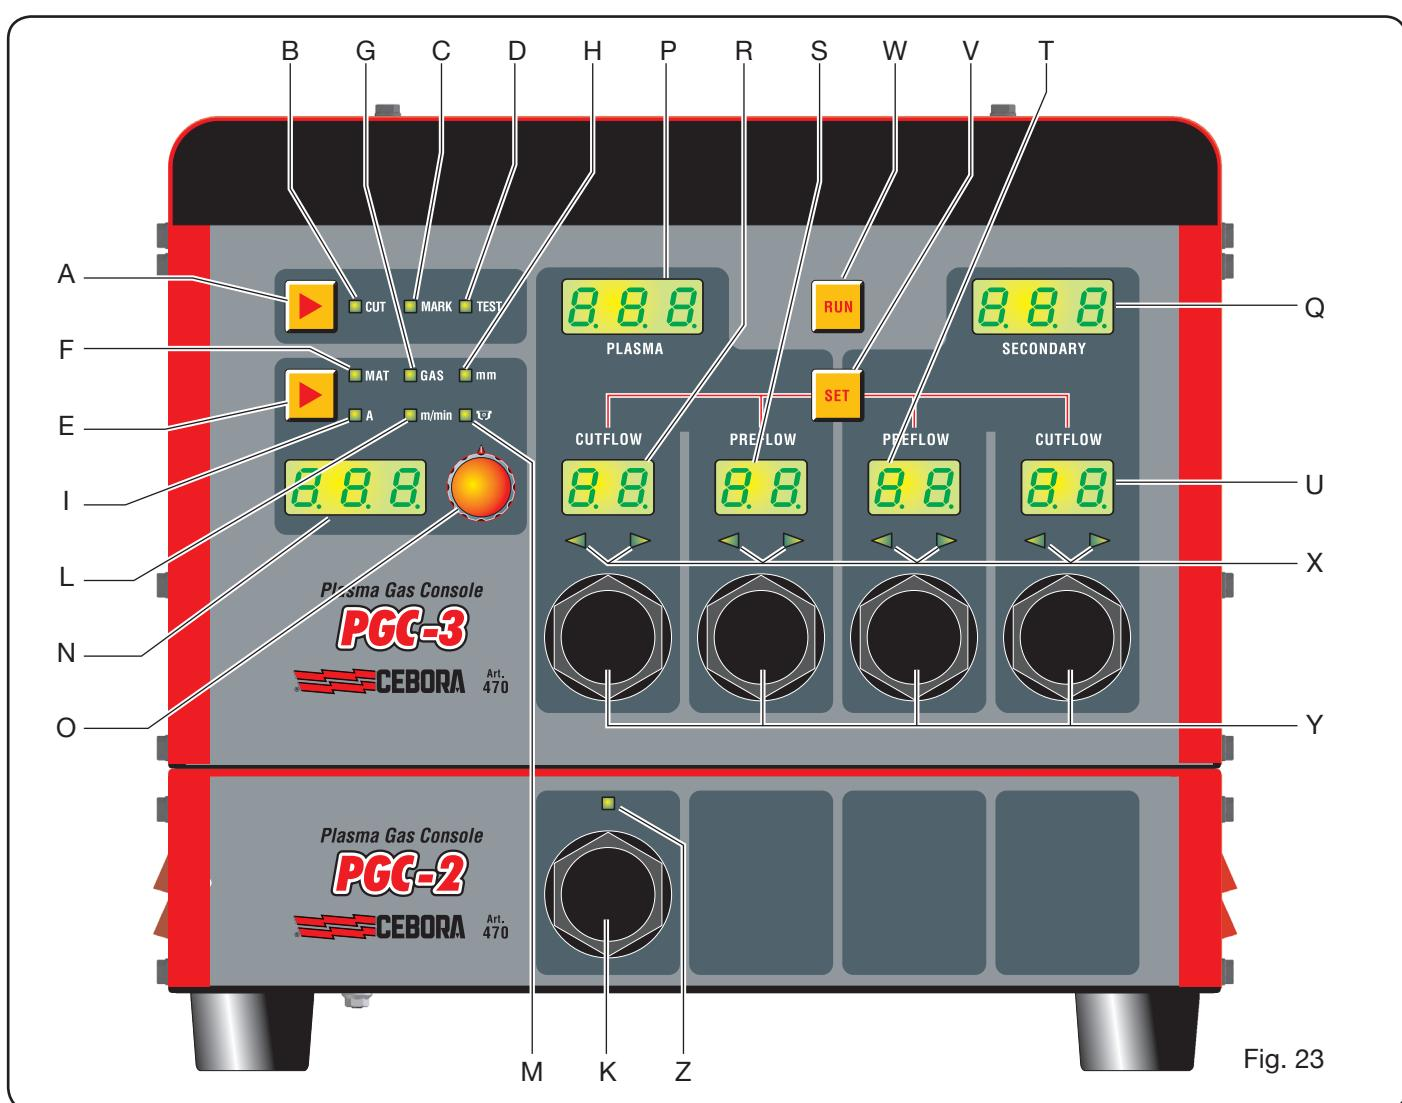

Fig. 23
The inlet of the 30-litre tank is in the upper part of the cooling unit, as shown in fig.23.
4.3 DESCRIPTION OF MANUAL GAS CONSOLE PANEL AND ITS USE (FIG. 23)